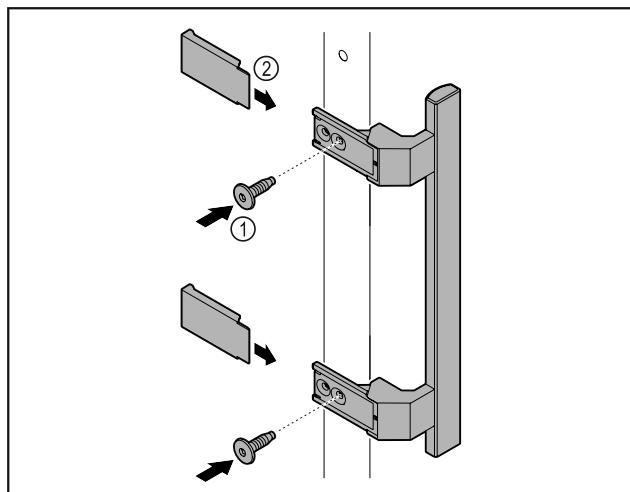

Fig. 7
► Attach handle from accessory kit to the door using supplied screws Fig. 7 (1).
► Put on cover Fig. 7 (2).